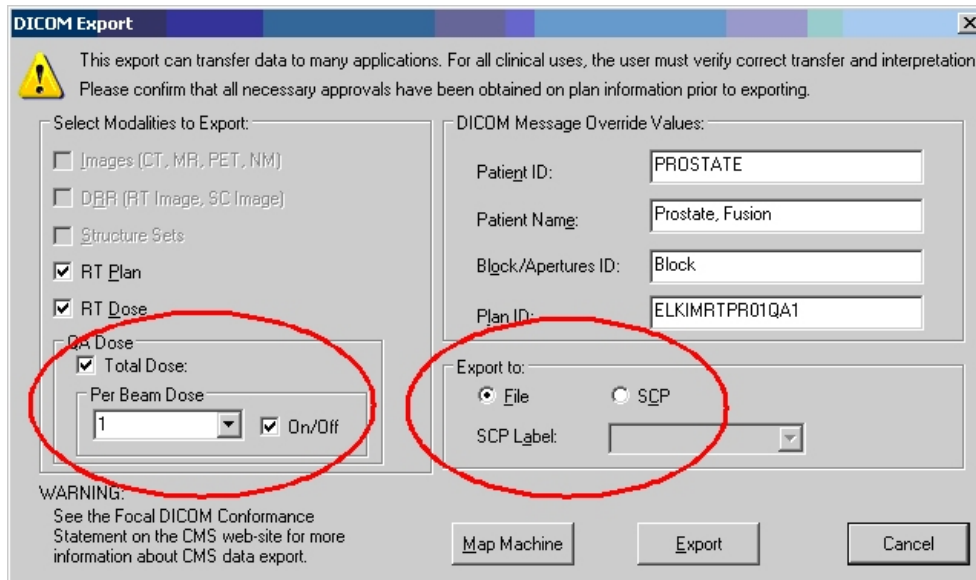

Figure 17 - Monaco "DICOM Export" window
- when the dose calculation process has finished and a valid dose distribution is present, use the command "File | DICOM Export..." (Figure 17);